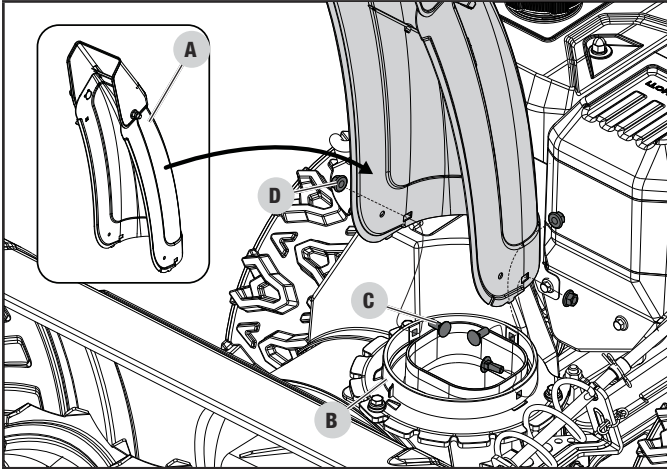

Figure 9
Tip the snowblower back on the wheels. Remove the chute (A) from the bubble wrap. Attach the chute to the chute gear (B). Connect the chute with 3 carriage bolts (C) and 3 locking nuts (D) as shown (Fig. 9). Torque until snug. Do not overtighten.